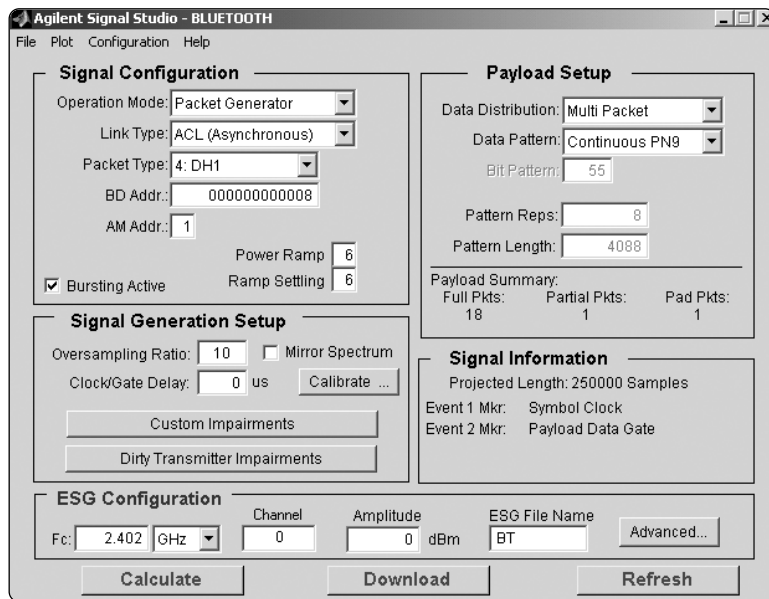

Figure 43. Signal Studio configured to create a DH1 multi packet sequence with continuous PN9 data spread over the user payload portion of the sequence.
- Use Signal Studio to configure a DH1 multi packet sequence that contains a continuous PN9 data distributed over the user payload portion of the packet sequence, Figure 43. Do not add impairments to the signal when performing the initial calibration. Once configured, select the **Calculate** button.